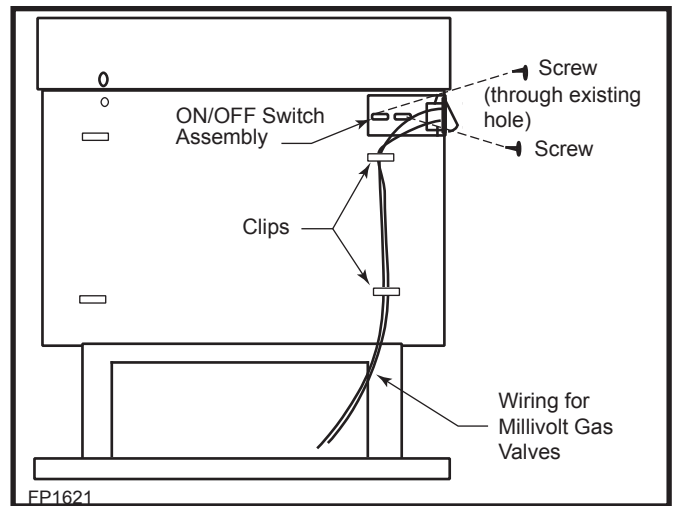

Fig. 4 Attach wiring under clips on rear casing.
3. Attach wiring under the clips on the rear casing (Fig. 4) and install wiring through the rear opening of the stove before connecting to the valve as shown in Figure 5.